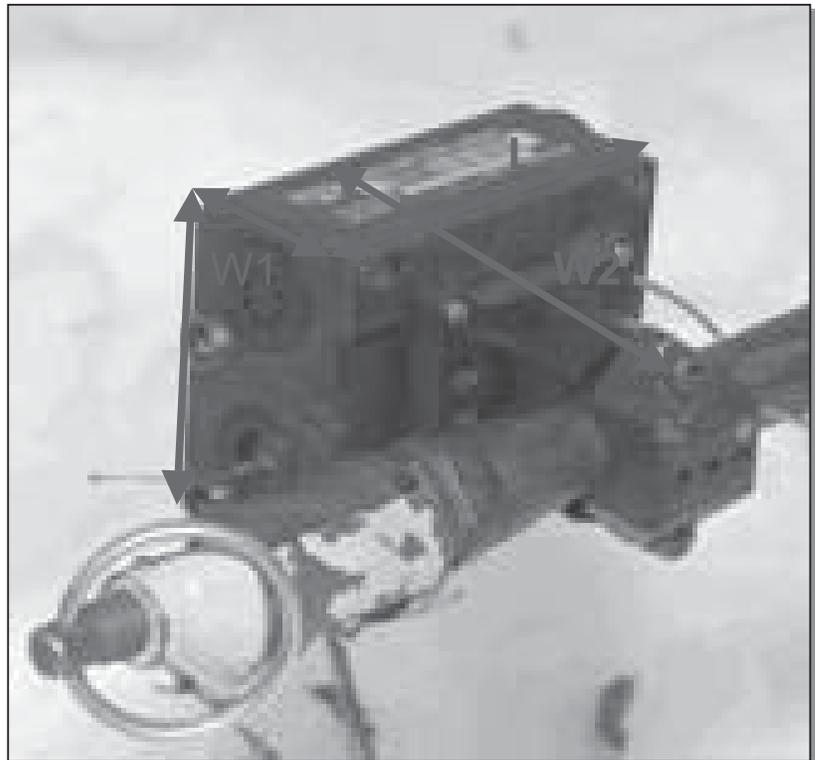

Figure 6 – C9 LMG WES Mount
- 3.3.15** The MGSM shall allow the use of Weapon Effect Simulation (WES) instrumentation on its mounted weapon. Dimensions and mounting locations for the WES system are detailed in Appendix 3: Pictures and Diagrams, Fig. 5 and Fig. 6.